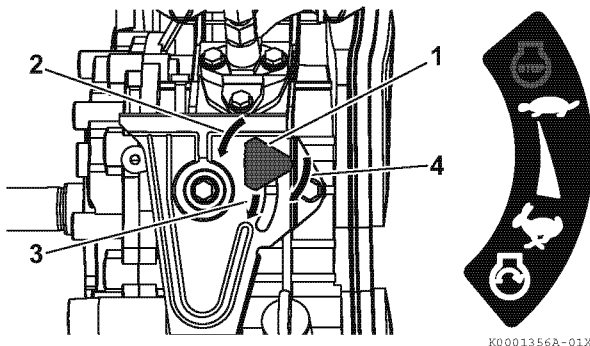

Figure 14
3. If your engine speed control is similar to **Figure 14**:
- 1- Turn the engine speed control knob (1, **Figure 14**) to the left (2, **Figure 14**).
- 2- Slide the engine speed control knob to the START position (3, **Figure 14**).
- 3- Turn the engine speed control knob to the right (4, **Figure 14**) to tighten it.